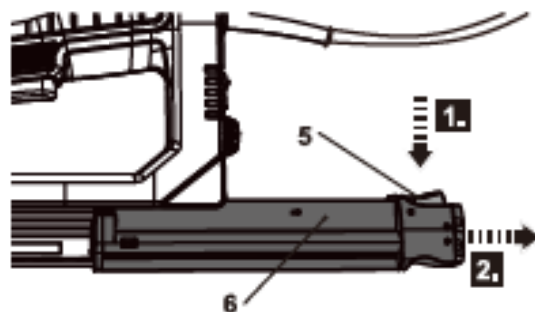

Fig. 2
2. Press the magazine cover release (5) and hold it in position, then pull the magazine slider (6) out of the back of the nailer until it stops (Fig. 2, steps 1, 2).